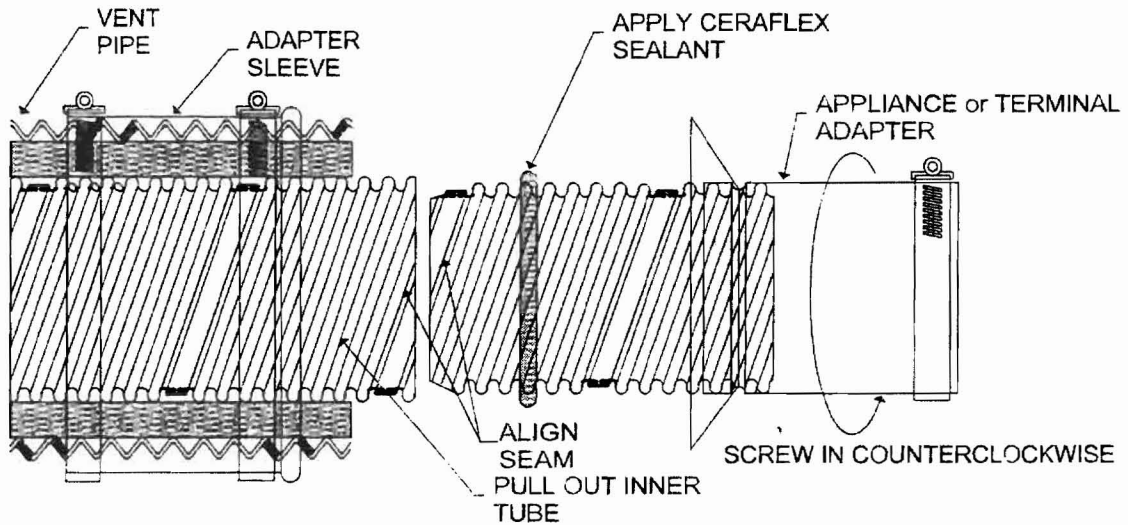
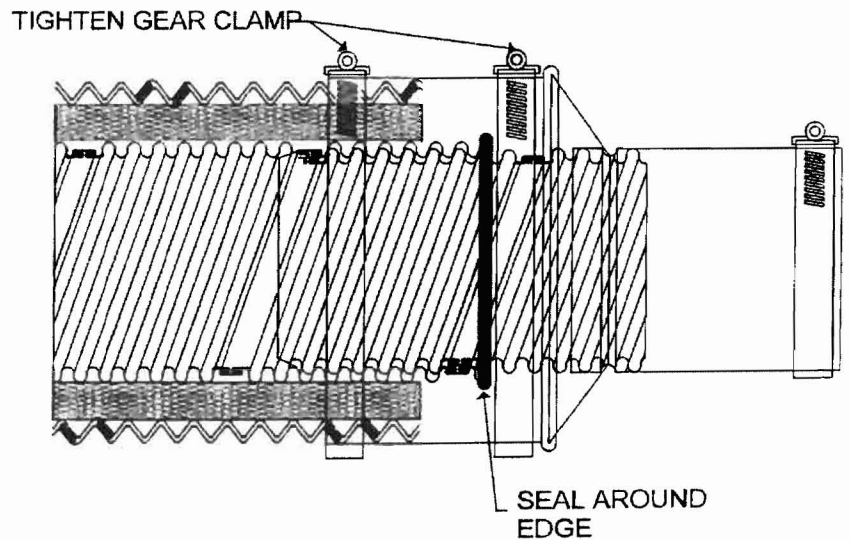

Figure 12
Figure 13
- 1) Loosen the gear clamps attached to the adapter sleeve and slide the adapter sleeve over the vent pipe, **Figure 12** and **Figure 13**.